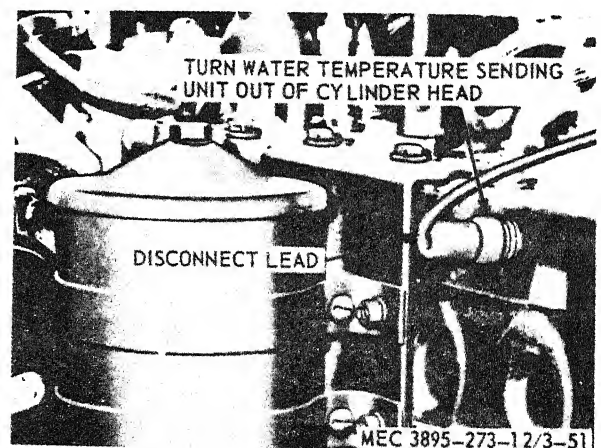

Figure 3-48. Water temperature sending unit, removal and installation.
a. *Removal.* Remove the water temperature sending unit from the engine as instructed on figure 3-48.
- (1) Clean the water temperature sending unit, removing any scale and rust from the element.
- (2) Inspect the unit for damage and proper operation. Replace a defective unit.
c. *Installation.* Install the water temperature sending unit in the engine in reverse of the instructions on figure 3-48.